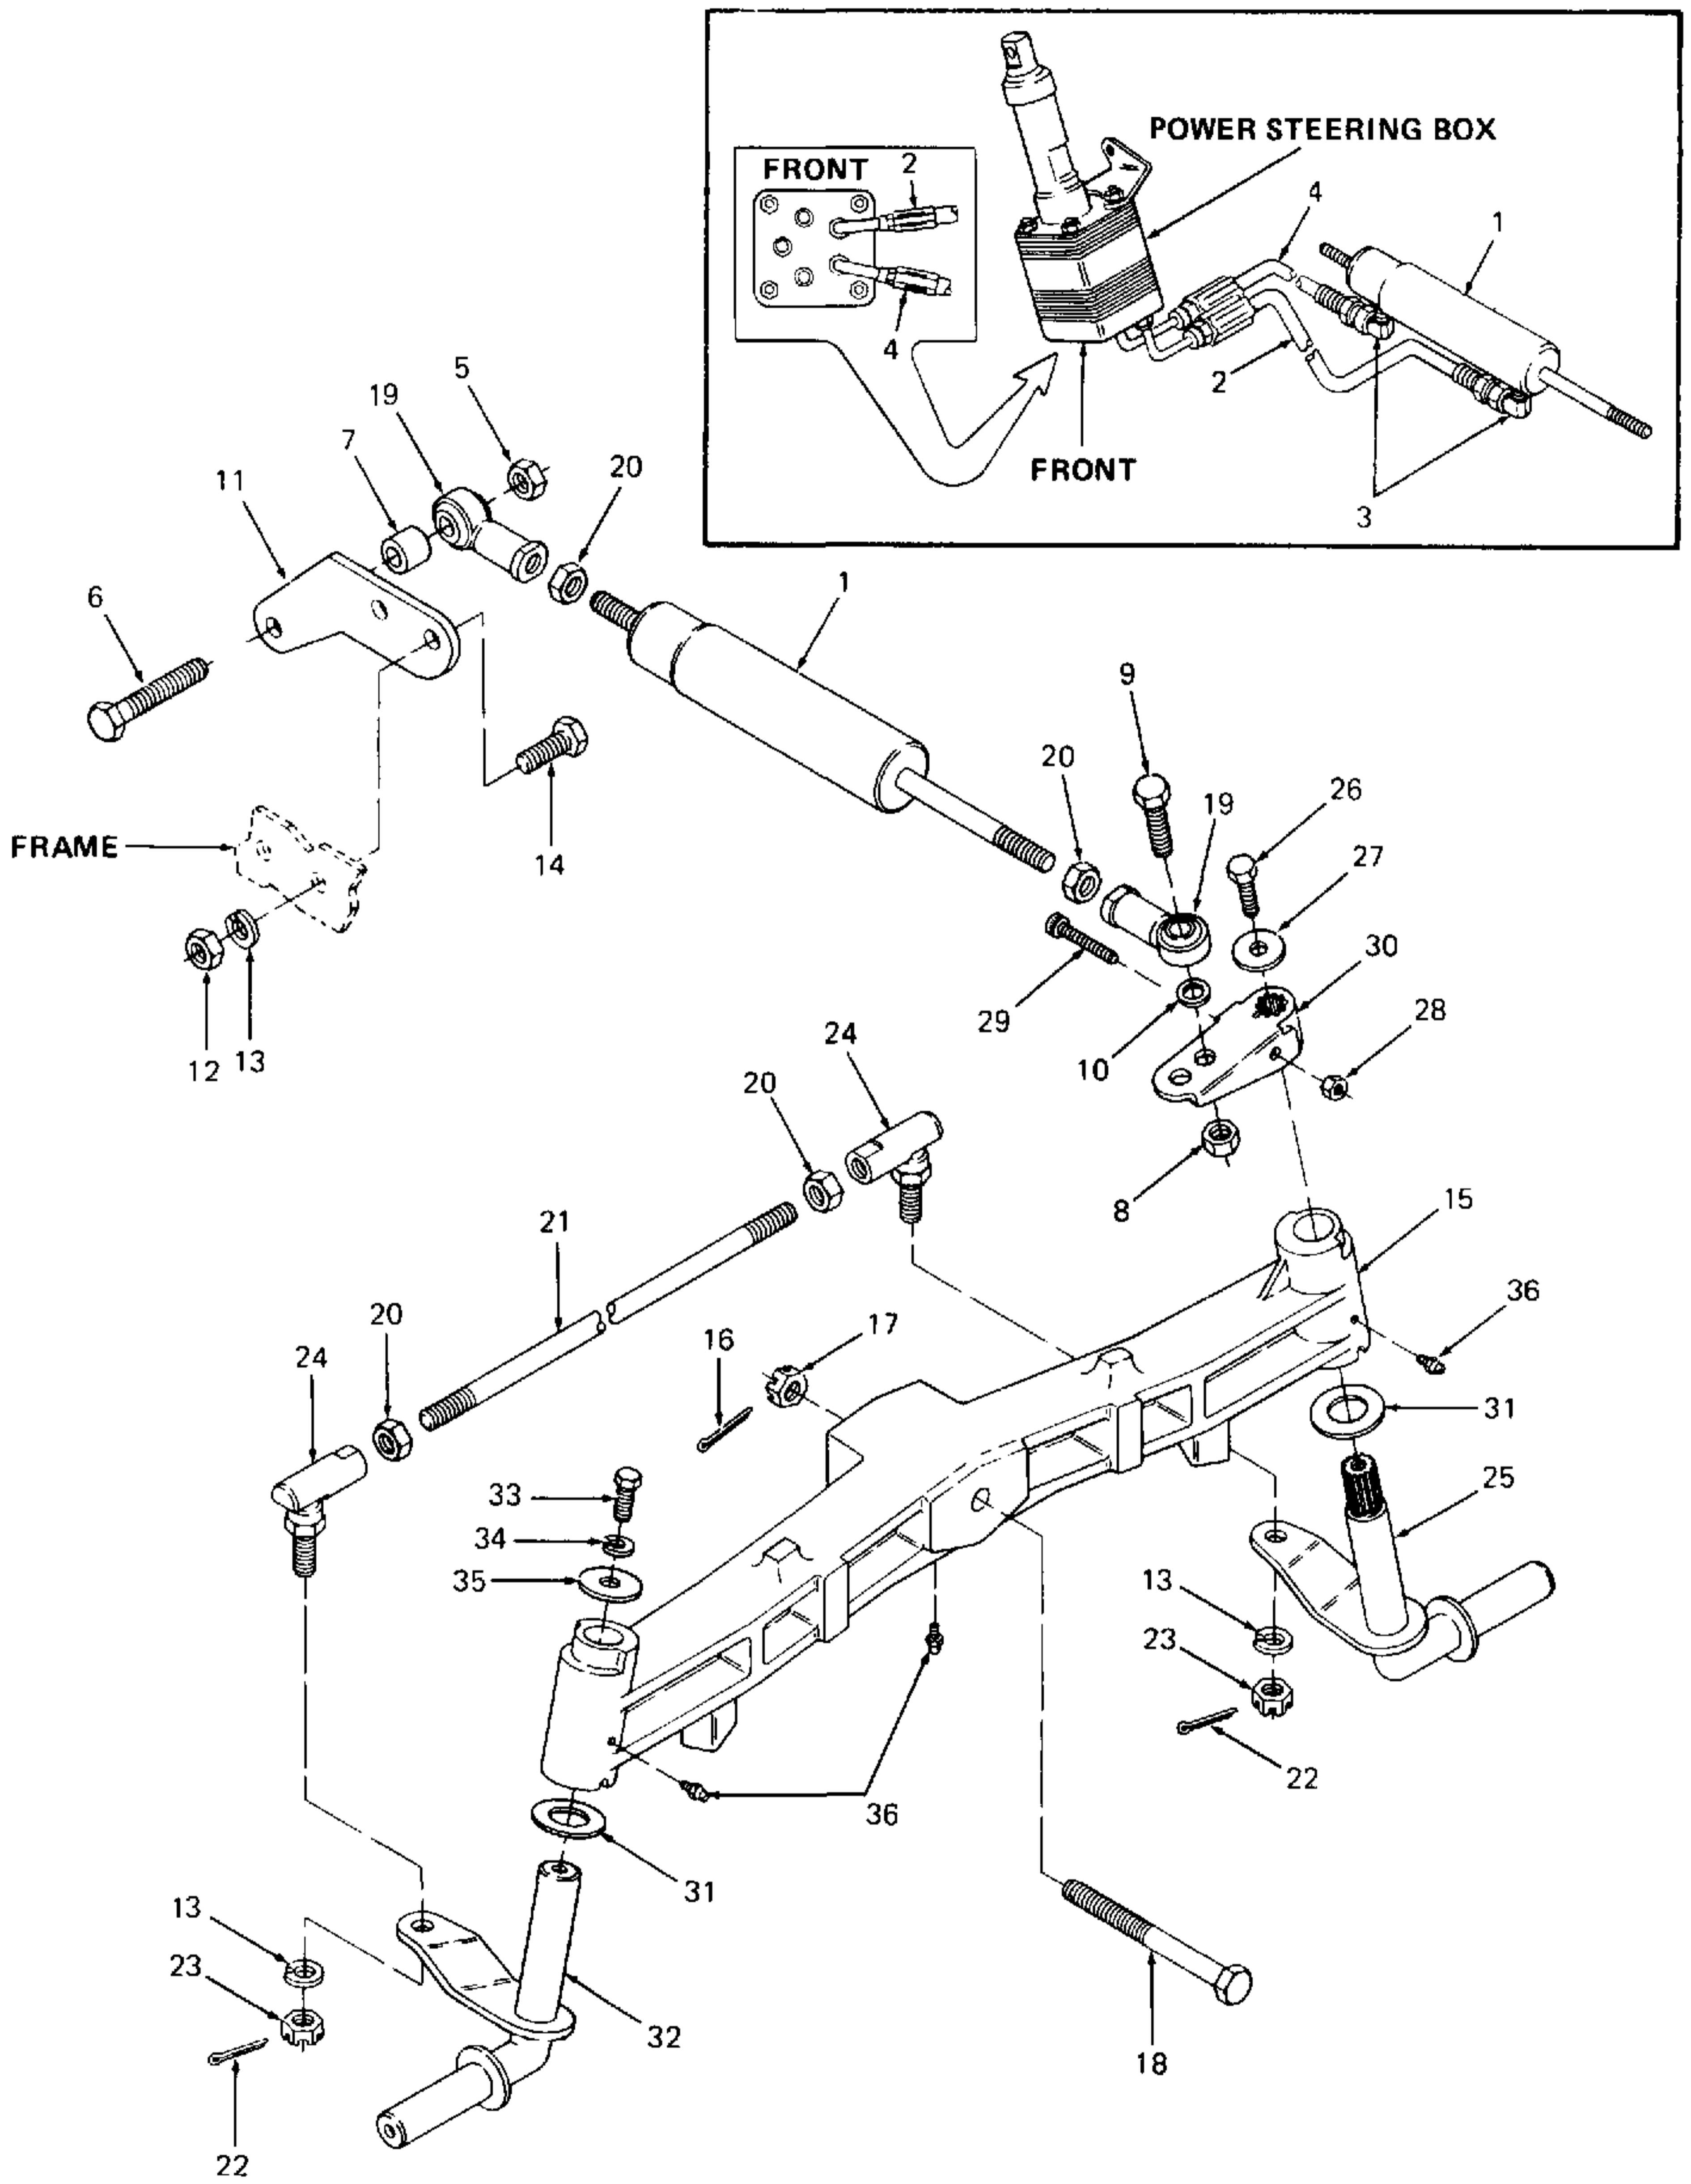

Figure 5-26. Front Axle and Connections – Power Steering Cylinder and Hydraulic Lines (Model 1862).
3. Remove hydraulic power steering cylinder (1, Figure 5-26) as follows:
Legend for Figure 5-26
- (1) Attach hoses to power steering box by tightening nuts on ends of hoses. Refer to Figure 5-26 for proper placement of hoses.
- (2) Attach hoses to power steering cylinder by tightening nuts on end of hoses onto 90 degree tube elbows (3). Refer to Figure 5-26 for proper placement of hoses.
6. Apply 251H EP grease to lube fittings (36).